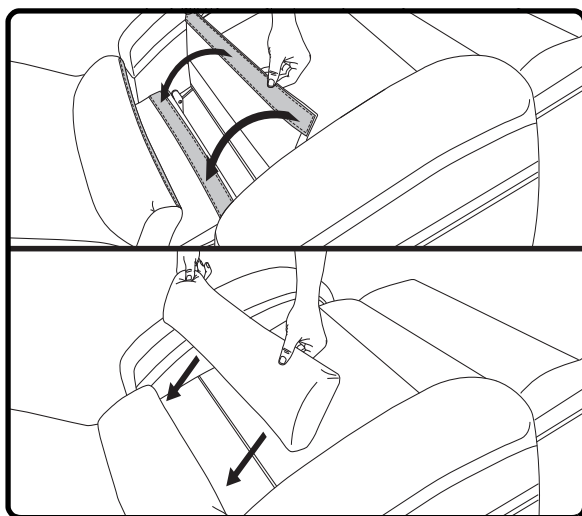

Figure 4.2 LL770 Additional Assembly
**NOTE:** See figure 4.2 for additional instructions regarding LC770 models.